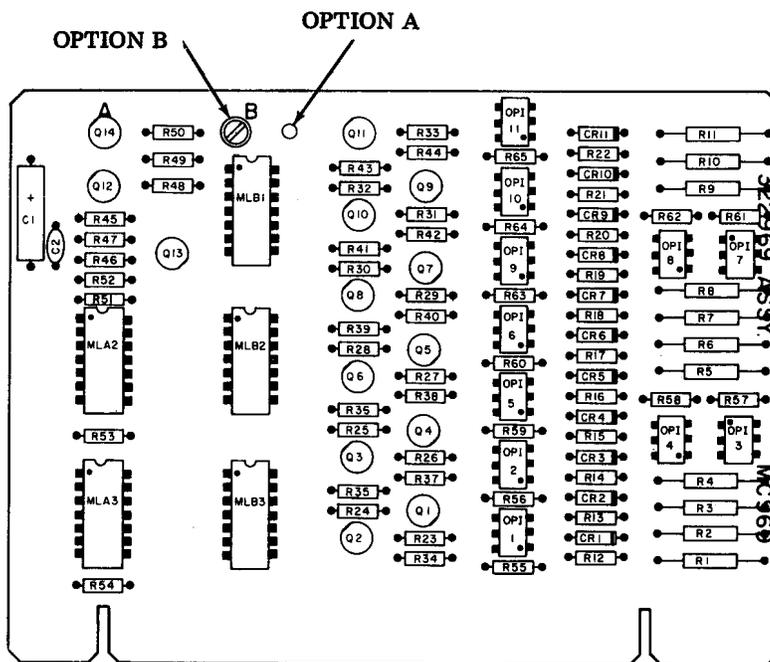

Figure 2 - TP322969 (MC969) Circuit Card Programming
5.01 The table lists operation programming for the module. Refer to Figures 2 and 3 respectively for illustrations that identify locations of option screw placement on the circuit cards.
5.04 Remove the TP322969 (MC969) circuit card from module position ZA316 on the CDT display controller module. Program the card for Option B. Figure 2 in this document provides the necessary pictorial view to accomplish this task.